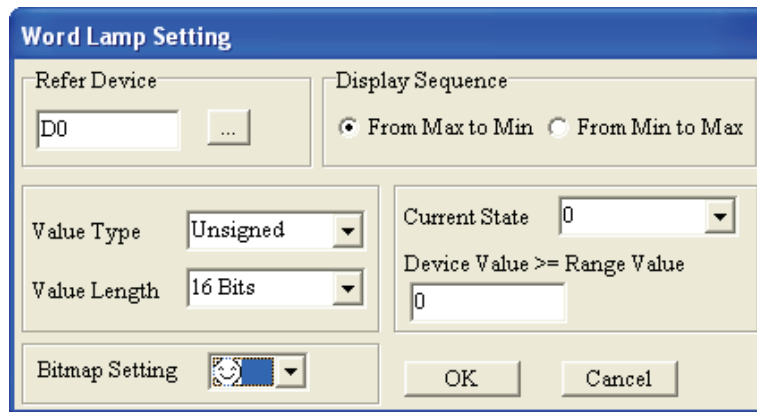
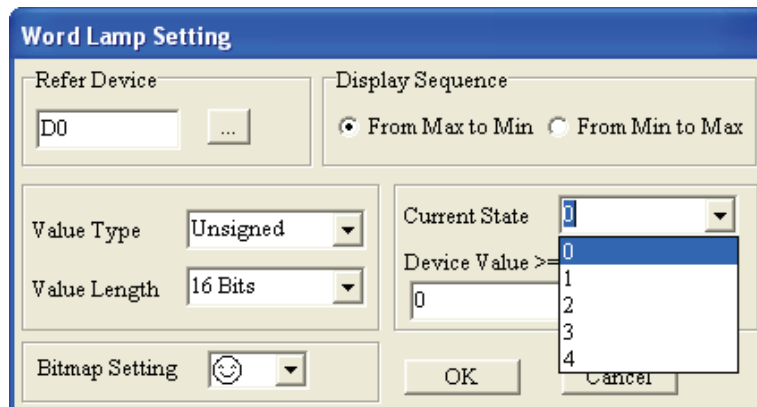

Figure 1-67
Figure 1-68
Step 1. After click **Object(O) > Lamp(16x16)(L) > Word Lamp(W)** command from the menu bar or click the icon  on the toolbar, the users could create a Word Lamp object on the screen. Then, double-click the object, and the users can get the following Word Lamp Setting tab (Figure 1-67). The users can set this object to read the corresponding PLC contacts (ON or OFF) or the value of PLC register, and display the read result or value on the screen of TP series directly. When the Refer Device is a constant, the system will perform comparison according to the settings of the Current State (Range: 0 ~ 4) (Figure 1-68) and display the picture set in Bitmap Setting.